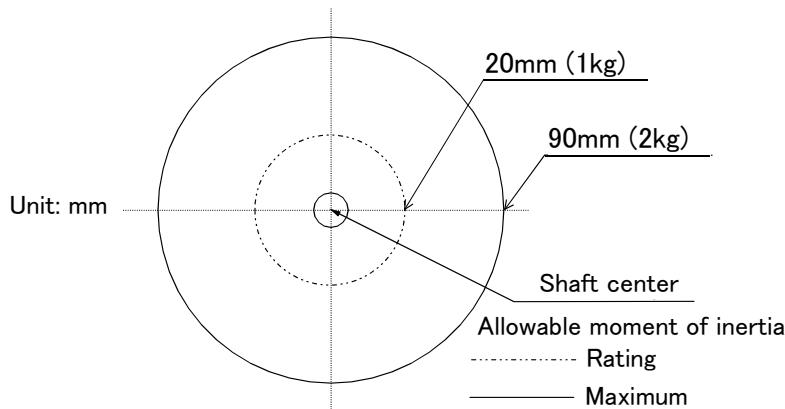

Fig.2-1 : Position of center of gravity for loads (for loads with comparatively small volume)
- (1) The tooling should have the value less or equal than the smaller of the tolerable inertia and the tolerable moment found in Page 6, "2.1.1 Basic specifications".
- (2) Fig. 2-1 shows the distribution dimensions for the center of gravity in the case where the volume of the load is relatively small. Use this figure as a reference when designing the tooling.
- Please use the robot in the allowable moment of inertia of maximum moment of inertia shown in Fig. 2-1, when loading mass is maximum (2kg).